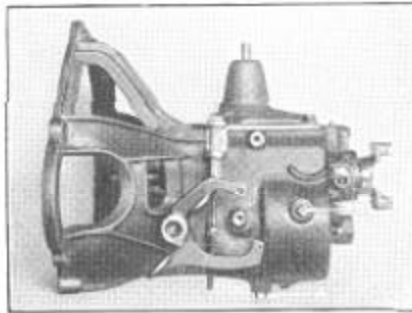

Figure 22
It is advisable to change transmission lubricant every 5,000 miles. To drain old lubricant, remove drain plug (A), Figure 22. After draining, replace plug securely. Remove filler plug (B) and refill with three pounds (or pints) of fresh oil of proper specifications. Replace filler plug securely.